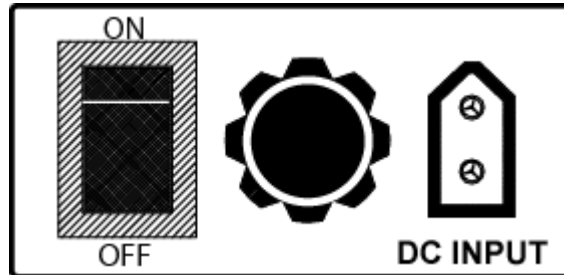

Figure 3.5 – DC Power Entry Module (90IPB)
Power ON/OFF Switch, Figure 3.5 - A two-position toggle switch on the back panel Power Module that interrupts/completes the power circuit. [ON = (|), OFF = (O)].